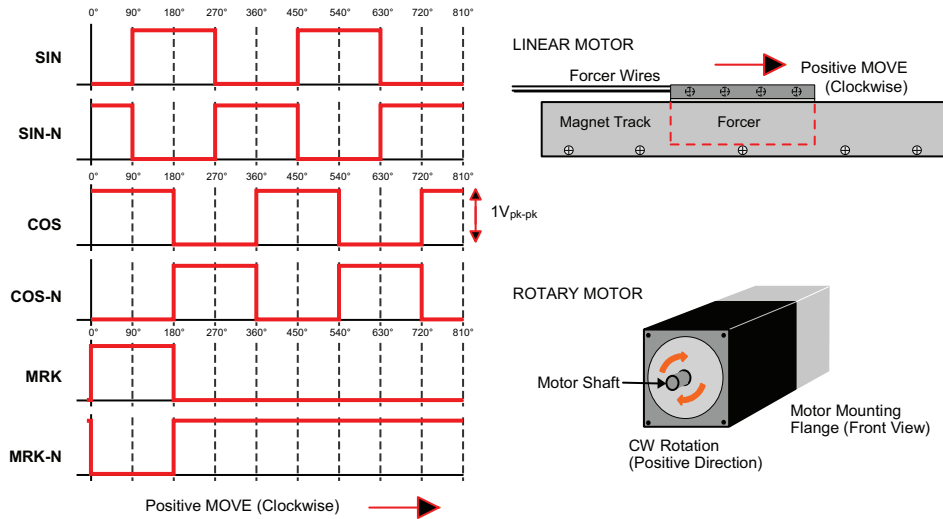
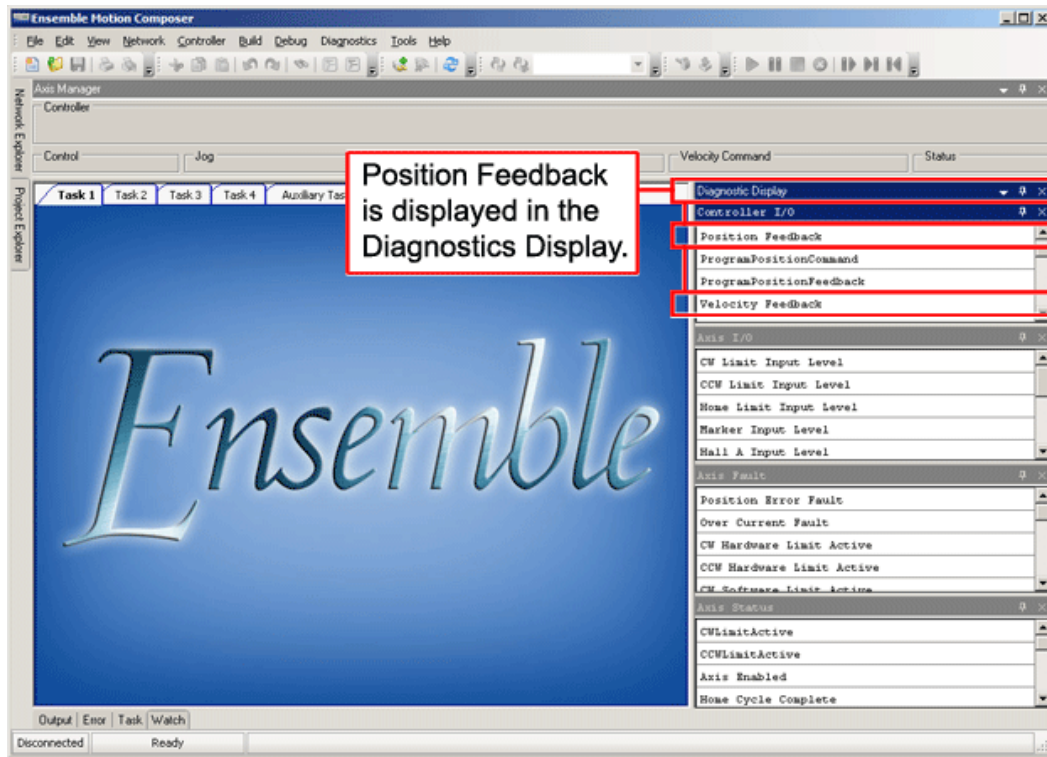

Figure 2-20: Encoder Phasing Reference Diagram (Standard)
Figure 2-21: Position Feedback in the Diagnostic Display
Incorrect encoder polarity will cause the system to fault when enabled or when a move command is issued. Figure 2-20 illustrates the proper encoder phasing for clockwise motor rotation (or positive forcer movement for linear motors). To verify, move the motor by hand in the CW (positive) direction while observing the position of the encoder in the diagnostics display (see Figure 2-21). The MotorVerification.ab program can be used if the motor can not be moved by hand. If the program causes the Position Feedback to count more negative, swap the connections to the controllers SIN and the SIN-N encoder inputs.
For dual loop systems, the velocity feedback encoder is displayed in the diagnostic display (Figure 2-21).
**NOTE:** Encoder manufacturers may refer to the encoder signals as A, B, and Z. The proper phase relationship between signals is shown in Figure 2-20.